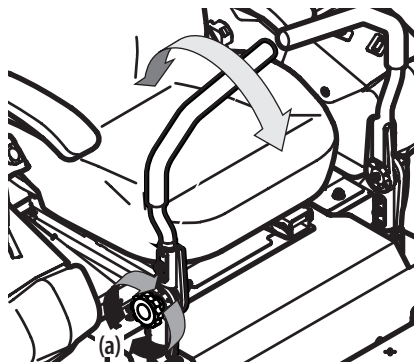

Figure 6
1. Loosen the control lever knob (a) to unlock the drive control levers. See Figure 6.
2. Move drive control levers to the desired angle and retighten the drive control knob (a) to secure the drive control levers in place. See Figure 6.